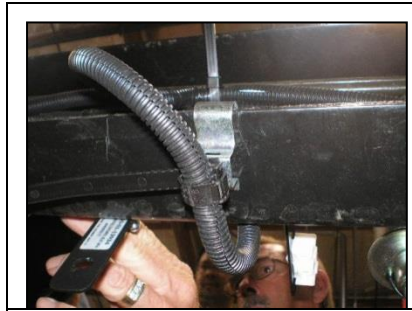

Figure 17
4. Attach the clip to the frame, to the right of the previously installed fuel pump connector bracket. Secure the DFT harness with the tie-strap. (See Figure 17.)